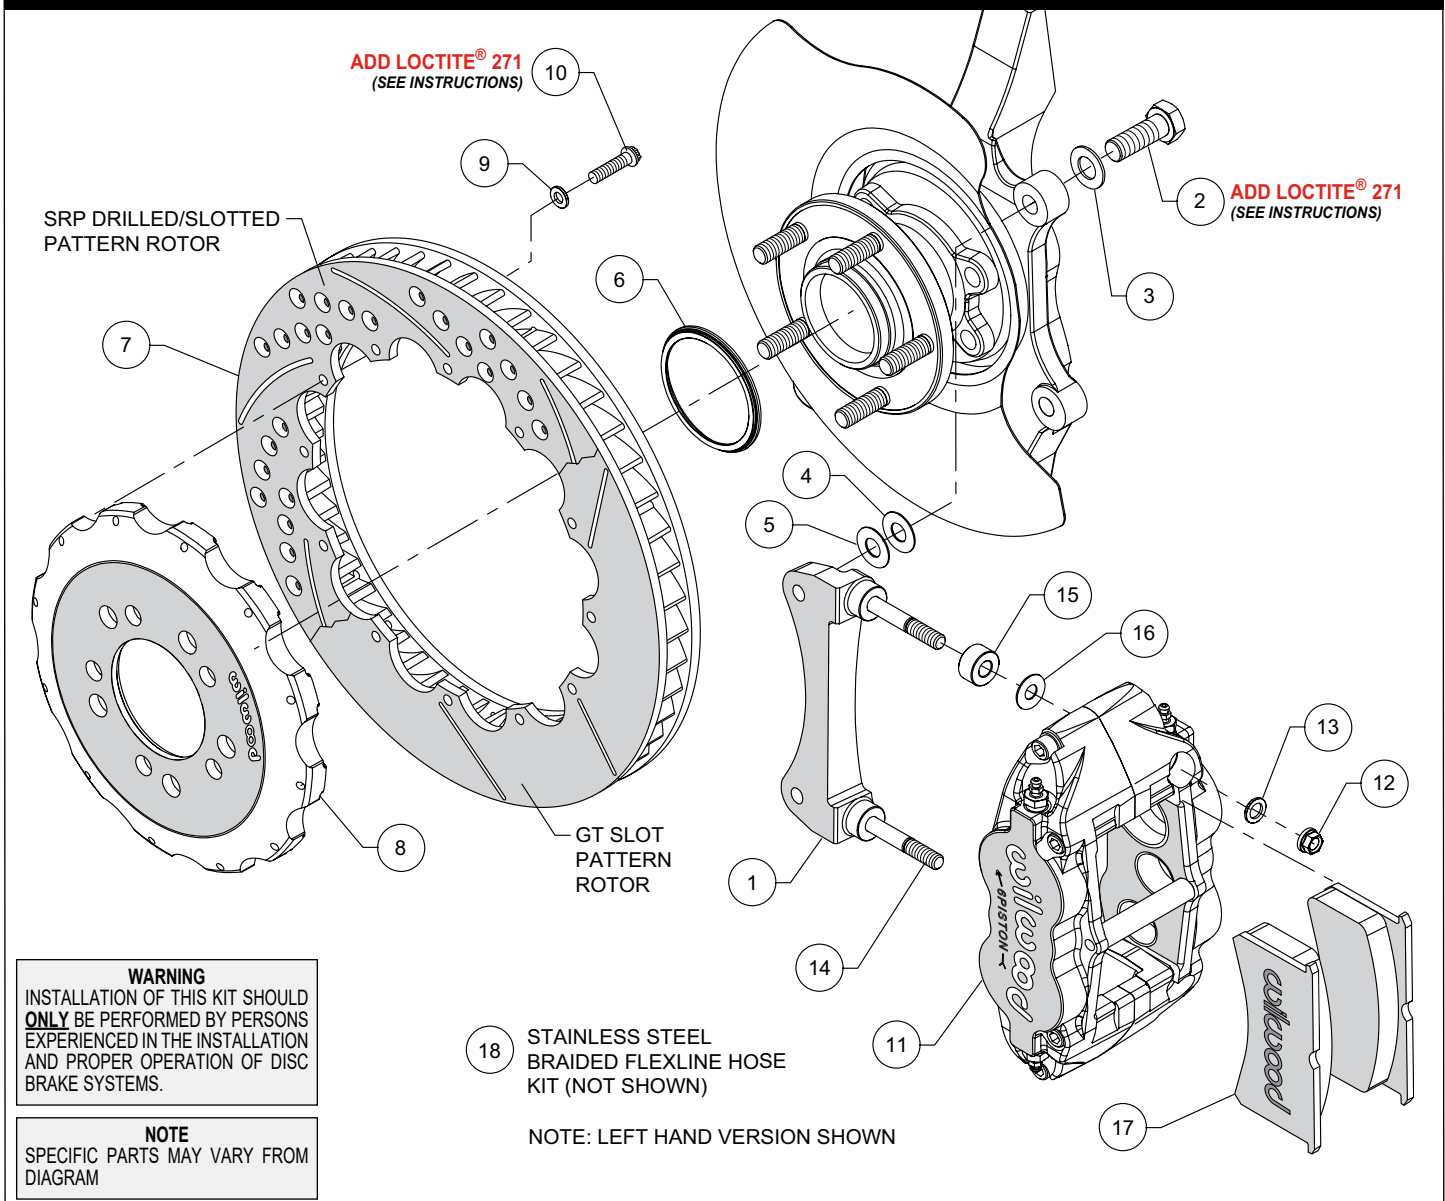
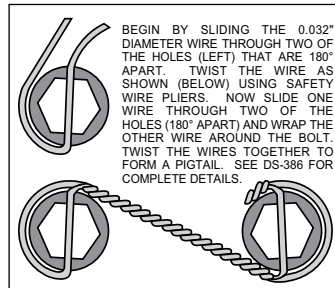

Figure 1. Typical Installation Configuration
Figure 3. Safety Wire Diagram
NOTE: Numbers in parenthesis refer to the parts list and Figure 1 on the preceding pages.
- The caliper mount bracket (1) should initially be installed with clean, dry threads on the mounting bolts. Orient the bracket as shown in Figure 1 and Photo 1, and install using washers (3) and bolts (2). Initially place one .033 thick shim (4) on each bolt between the bracket and upright, Figure 1. Temporarily tighten the mounting bolts. **NOTE:** The bracket must fit squarely against the mount bosses on the upright. Inspect for interference from casting irregularities, machining ridges, burrs, etc. Later, after the caliper alignment has been checked, the mount bolts will be secured using red *Loctite*® 271.
- Orient the rotor (7) and the hat (8) as shown in Figure 1 and Photo 2. Attach rotor to hat using bolts (10) and washers (9). Apply red *Loctite*® 271 to the bolt threads and torque to 155 in-lb using a criss-cross pattern. For an added measure of security, the bolts may be safety wired using standard 0.032 inch diameter stainless steel safety wire as shown in Figure 3. Please refer to Wilwood's data sheet DS-386 (available at www.wilwood.com/Pdf/DataSheets/ds386.pdf) for complete safety wire installation instructions.
- Slide the rotor registration adapter (6) onto the axle register on the axle hub with the smaller O.D. facing outward, Photo 3. Slide the hat/rotor assembly (7/8) onto the axle hub. **NOTE:** The hat must fit flush against the axle hub flange or excessive rotor run out may result. Install three lug nuts (finger tight) to keep the hat/rotor assembly in place while continuing with the installation.
- NOTE:** This kit contains distinct right and left hand calipers that must be mounted in a specific direction, as described below. Initially place one .035" thick shim (16) and one spacer (15) on each stud (14) as shown in Figure 1 and Photo 4. Mount the caliper (11) onto the bracket (1) using lock nuts (12) and washers (13), Figure 1. Ensure that the caliper is mounted so that the largest pistons are at the rotor exit end of the caliper, in relation to the direction of rotor rotation. Temporarily tighten the lock nuts and view the rotor through the top opening of the caliper. The rotor should be centered in the caliper, Photo 5. If not, adjust by adding or subtracting shims (4 and/or 5) between the bracket and the upright. Always use the same amount of shims on each of the two mounting bolts. Once the caliper alignment is correct, remove the bracket mounting bolts (2) one at a time, apply red *Loctite*® 271 to the threads, and torque to 60 ft-lb.